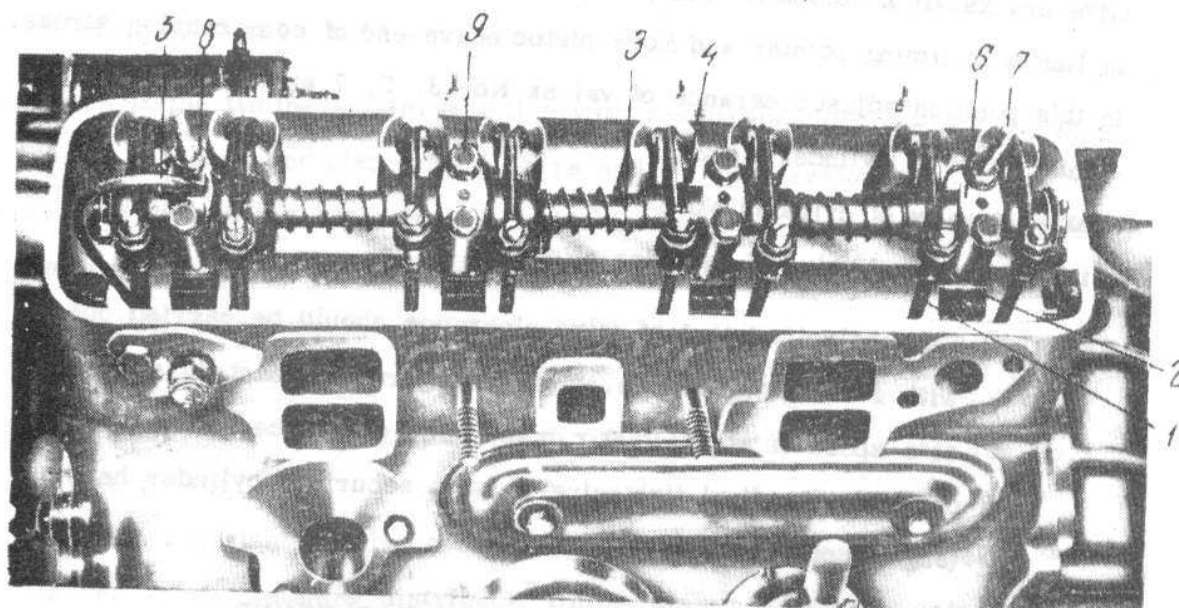

Fig. 4.68. ROCKER ARM FITTED ON CYLINDER HEAD.
- Dip end of push rods (1) - see Fig. 4.68 - in oil and fit them in marked order on each respective tappet.